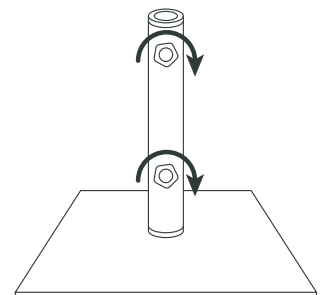

FIG. 4
2. Screw the knob(s) into place on the pole. (Fig. 4)